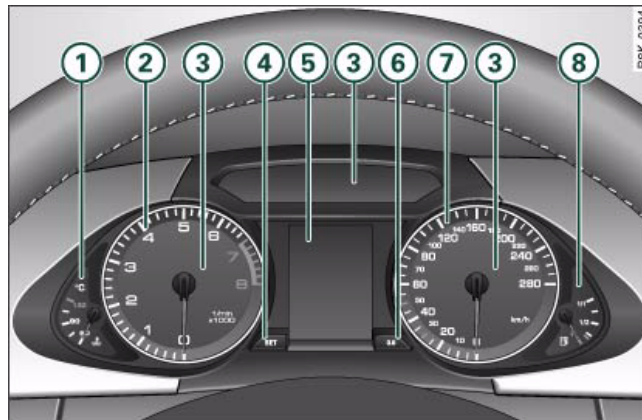

Fig. 2 Overview of instrument cluster
The coolant temperature gauge ① ⇒ fig. 2 only works when the ignition is switched on. In order to avoid possible damage to the engine, please read the following notes for the different temperature ranges.
Never allow the rev counter needle  ⇒ page 11, fig. 2 to go into the red zone on the dial for more than a very brief period: there is a risk of damaging the engine. The start of the red zone on the dial is different for some engine versions.